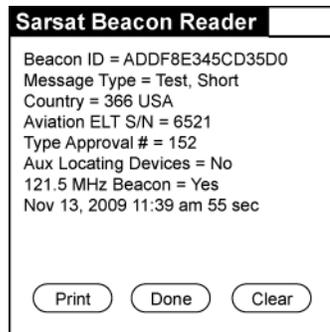

Figure 10 406 MHz Message Example
- 4) Deactivate the ELT and read the test message broadcast at "turn-off". A sample message is shown in Figure 10 406 MHz Message Example on page 33.
- b) The example in Figure 10 406 MHz Message Example on page 33 is an ELT programmed for "User Protocol ELT with Serial Number", with a test Hex ID.